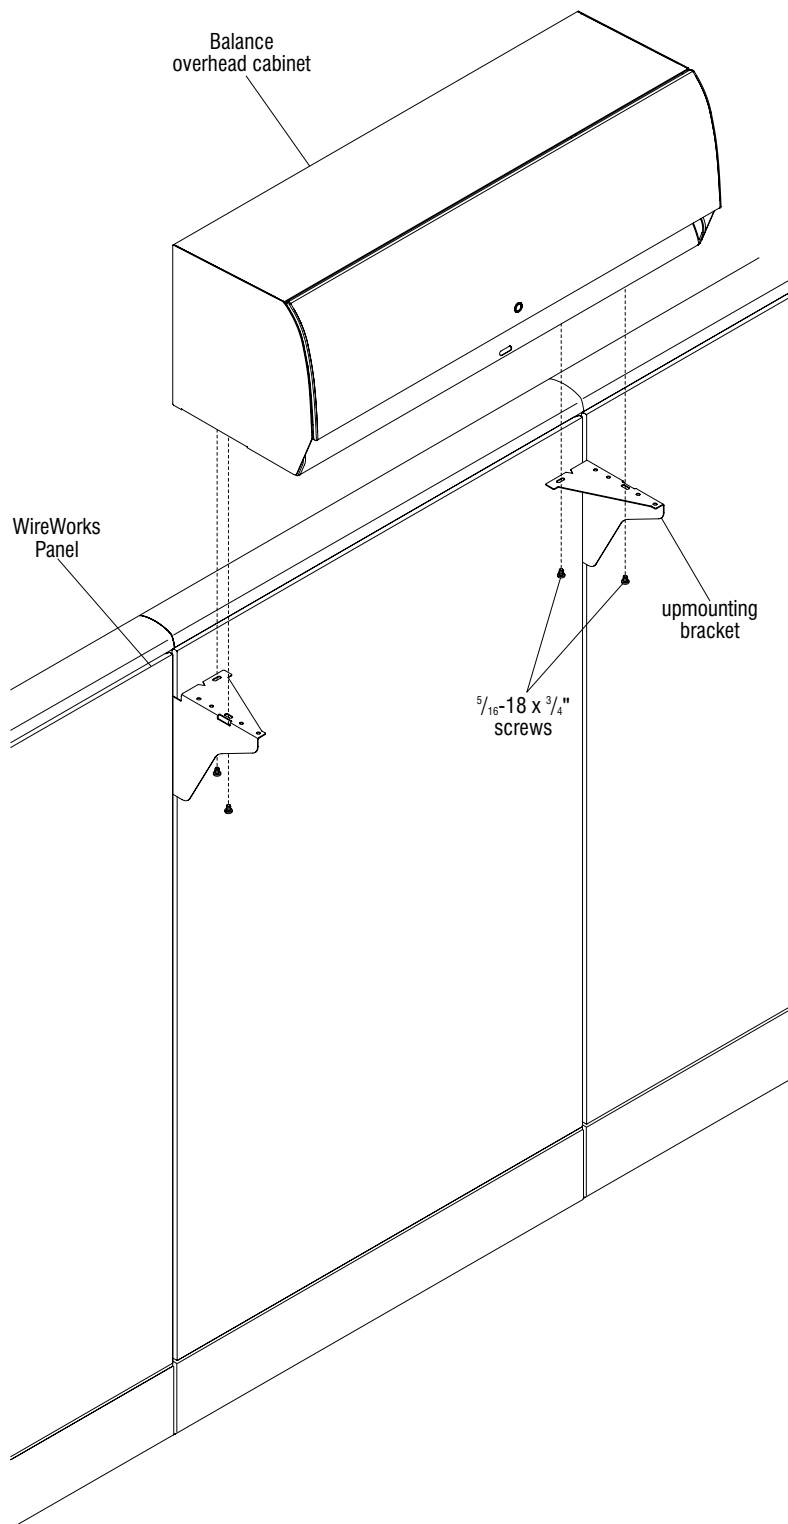

Figure 6
2. Carefully position Balance cabinet on top of brackets, aligning the two oblong slots of the bracket with the threaded holes of the cabinet (Figure 6).